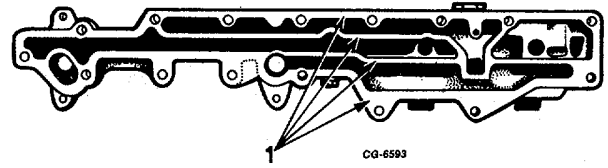

Fig. 131 Oil Filter and Cooler Base
2. Inspect gasket surfaces of base for nicks or scratches which could cause leakage. Replace base if damaged (Figure 131).